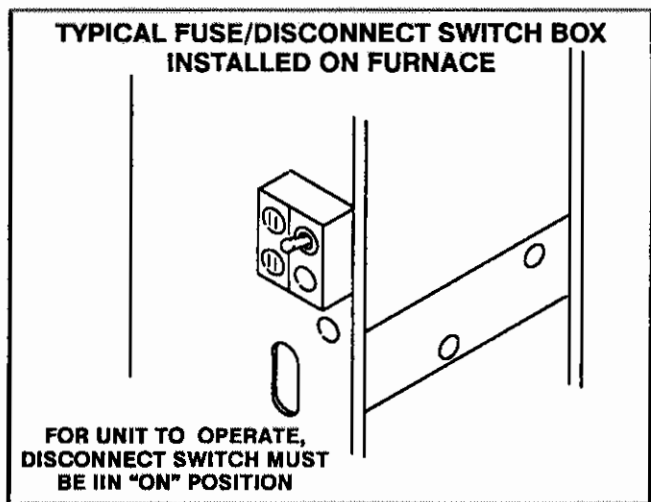

FIGURE 6
- 1- Turn off electrical power to furnace. See figure 6.